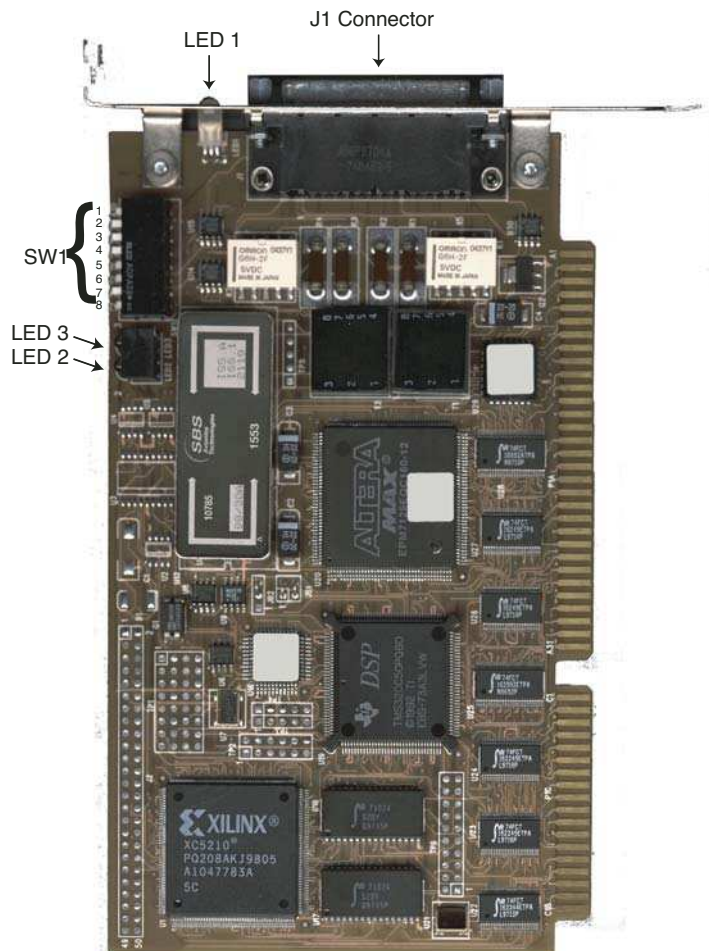
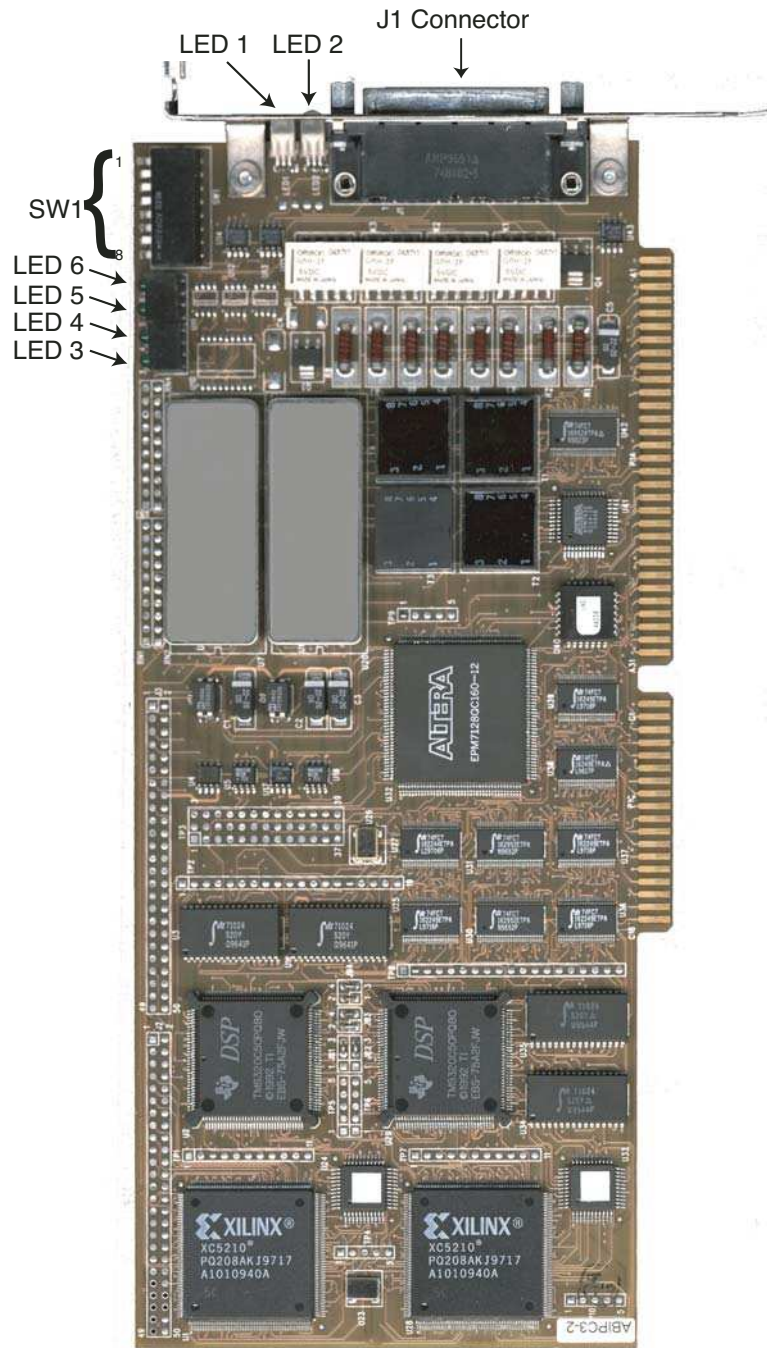

Figure 9.2.1: ABI/ASF-PC3-1 Board Layout
Figure 9.2.2: ABI/ASF-PC3-2 Board Layout
Figure 9.2.1 and Figure 9.2.2 show the respective layouts of the ABI/ASF-PC3-1 and ABI/ASF-PC3-2 boards.
1. Locate switch SW1 on the PC3 card, using the appropriate PC3 layout shown in Figure 9.2.1 or Figure 9.2.2.